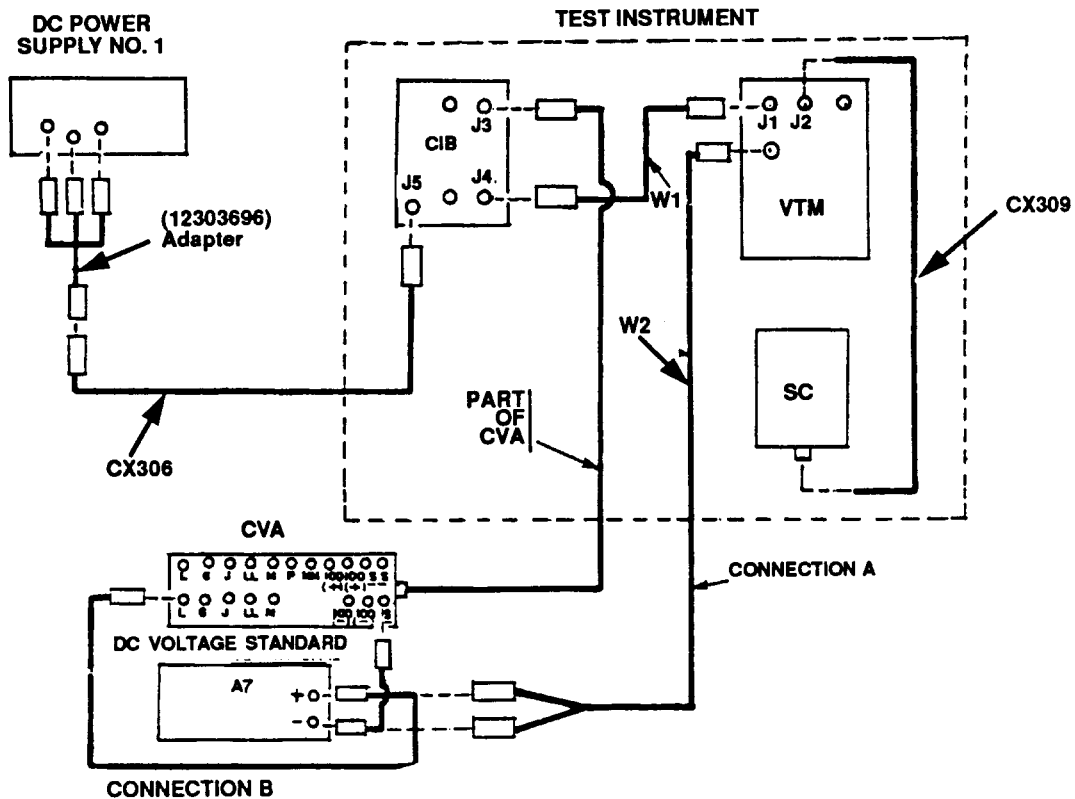

Figure 8. 10 V and 100 mV channel accuracy - equipment accuracy.
a. Connect equipment as shown in CONNECTION A (fig. 8).
- (1) Set calibrator to **STANDBY** and +9.500 V output.
- (2) Connect equipment as shown in CONNECTION B (fig. 8).
- (3) Press **STOP** and **CLEAR** key on set communicator.
- (4) Using **DATA ENTRY** keys, enter **66657** on set communicator and press **GO** key.
- (5) Set calibrator to **OPERATE**. Set communicator will indicate between 9.3 and 9.7.
- (6) Set calibrator to **STANDBY**.
(1) Connect equipment as shown in CONNECTION B (fig. 8), except connect + (positive) lead from dc voltage standard to 100 (+) terminal on CVA and connect – (negative) lead to -100 terminals.
(2) Set calibrator to all zeroes and **OPERATE**.
(3) Using **DATA ENTRY** keys, enter **66659** on set communicator and press **GO** key.
(4) Set output of calibrator to 95 mV. Set communicator will indicate between 90 and 100 mV.
(5) Reduce dc voltage output to 0.
(6) Press set communicator **STOP** and **CLEAR** keys.
(7) Repeat technique of (2) through (6) above for enter codes 66660, 66661, and 66662. Set communicator will indicate between 90 and 100 mV for each entry.
(8) Set calibrator to **STANDBY** and disconnect from adapter.